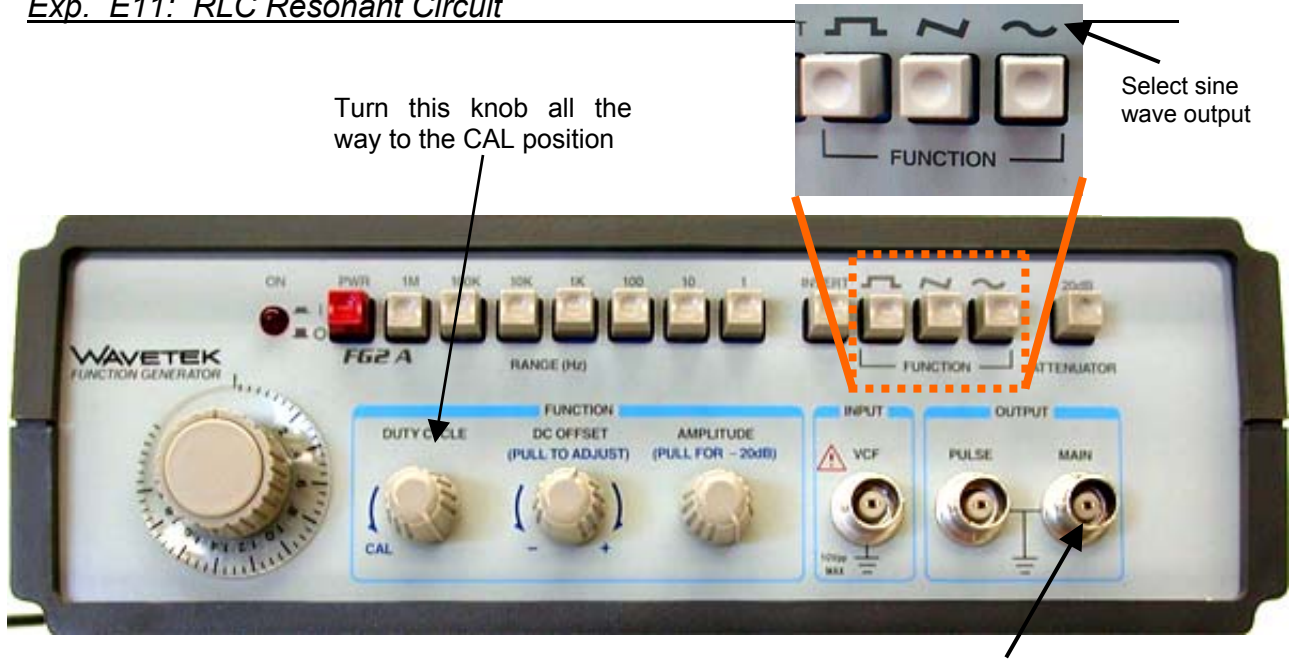
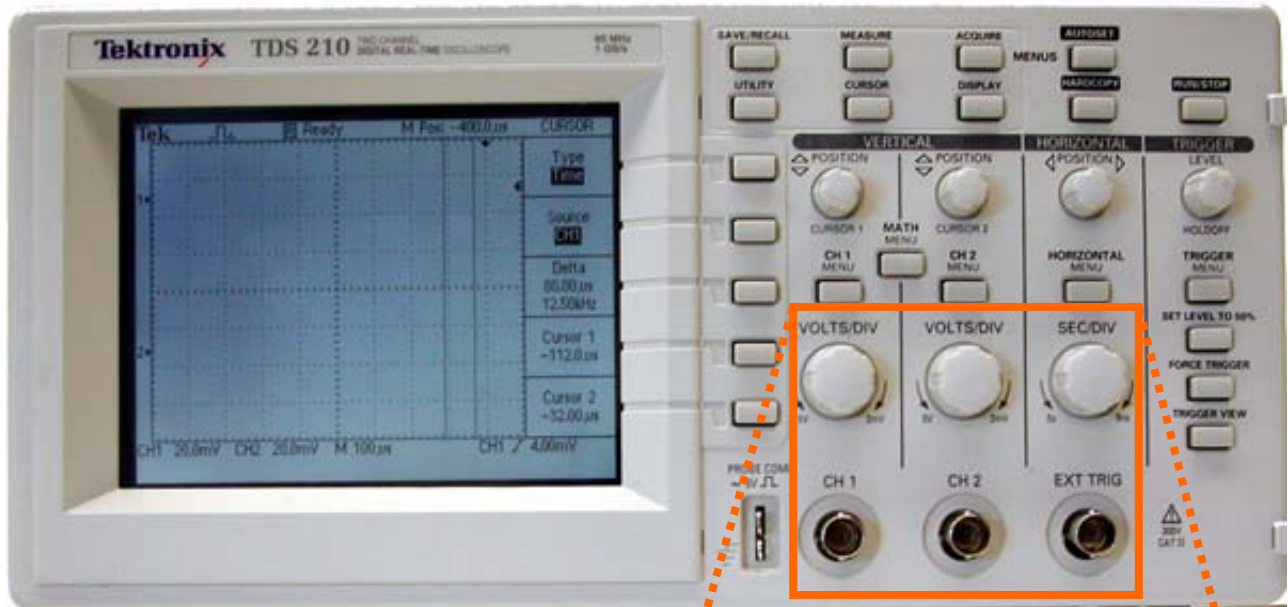

Figure 11-7. Function generator
Figure 11-8. Digital Storage Oscilloscope.
- (1) Examine the function generator, as shown in Figure 11-7 and the digital storage oscilloscope in Figure 11-8.